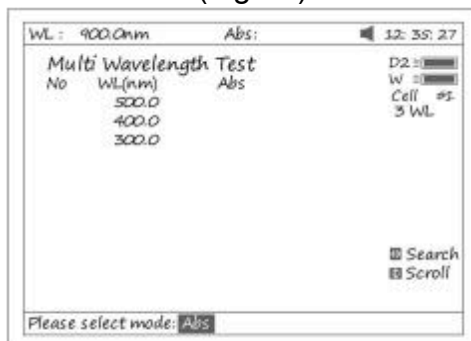

Fig70
2. Press **【F2】** to select mode (Fig 70).